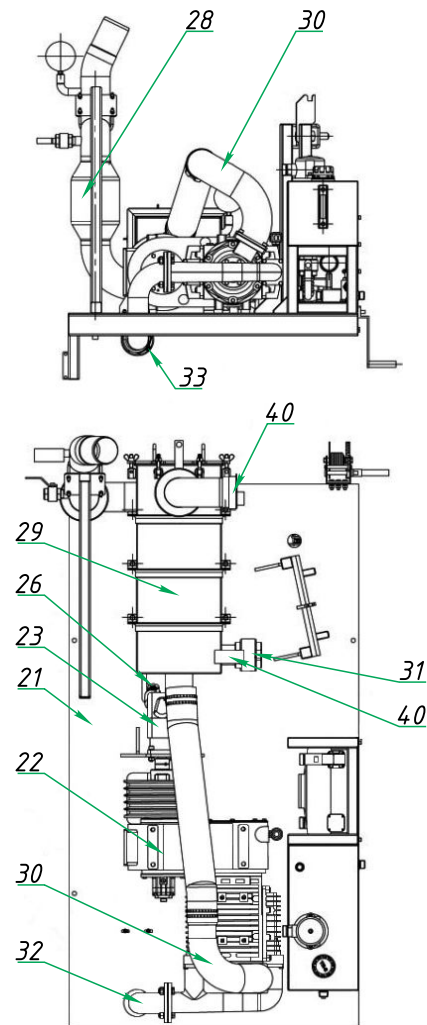

Figure 4 - Compressor unit
Between the chassis cab and the hopper (Fig. 4) is a platform (pos. 21) with a compressor (pos. 22) mounted on it, driven by a hydraulic motor (pos. 23). Oil is supplied to the hydraulic motor from the hydro station (pos. 26). The hydraulic pump is mounted on the chassis power take-off (PTO) 1NH/1c*. A spare tire holder is also located on the platform; it is lifted using a cable hoist with a manual winch.